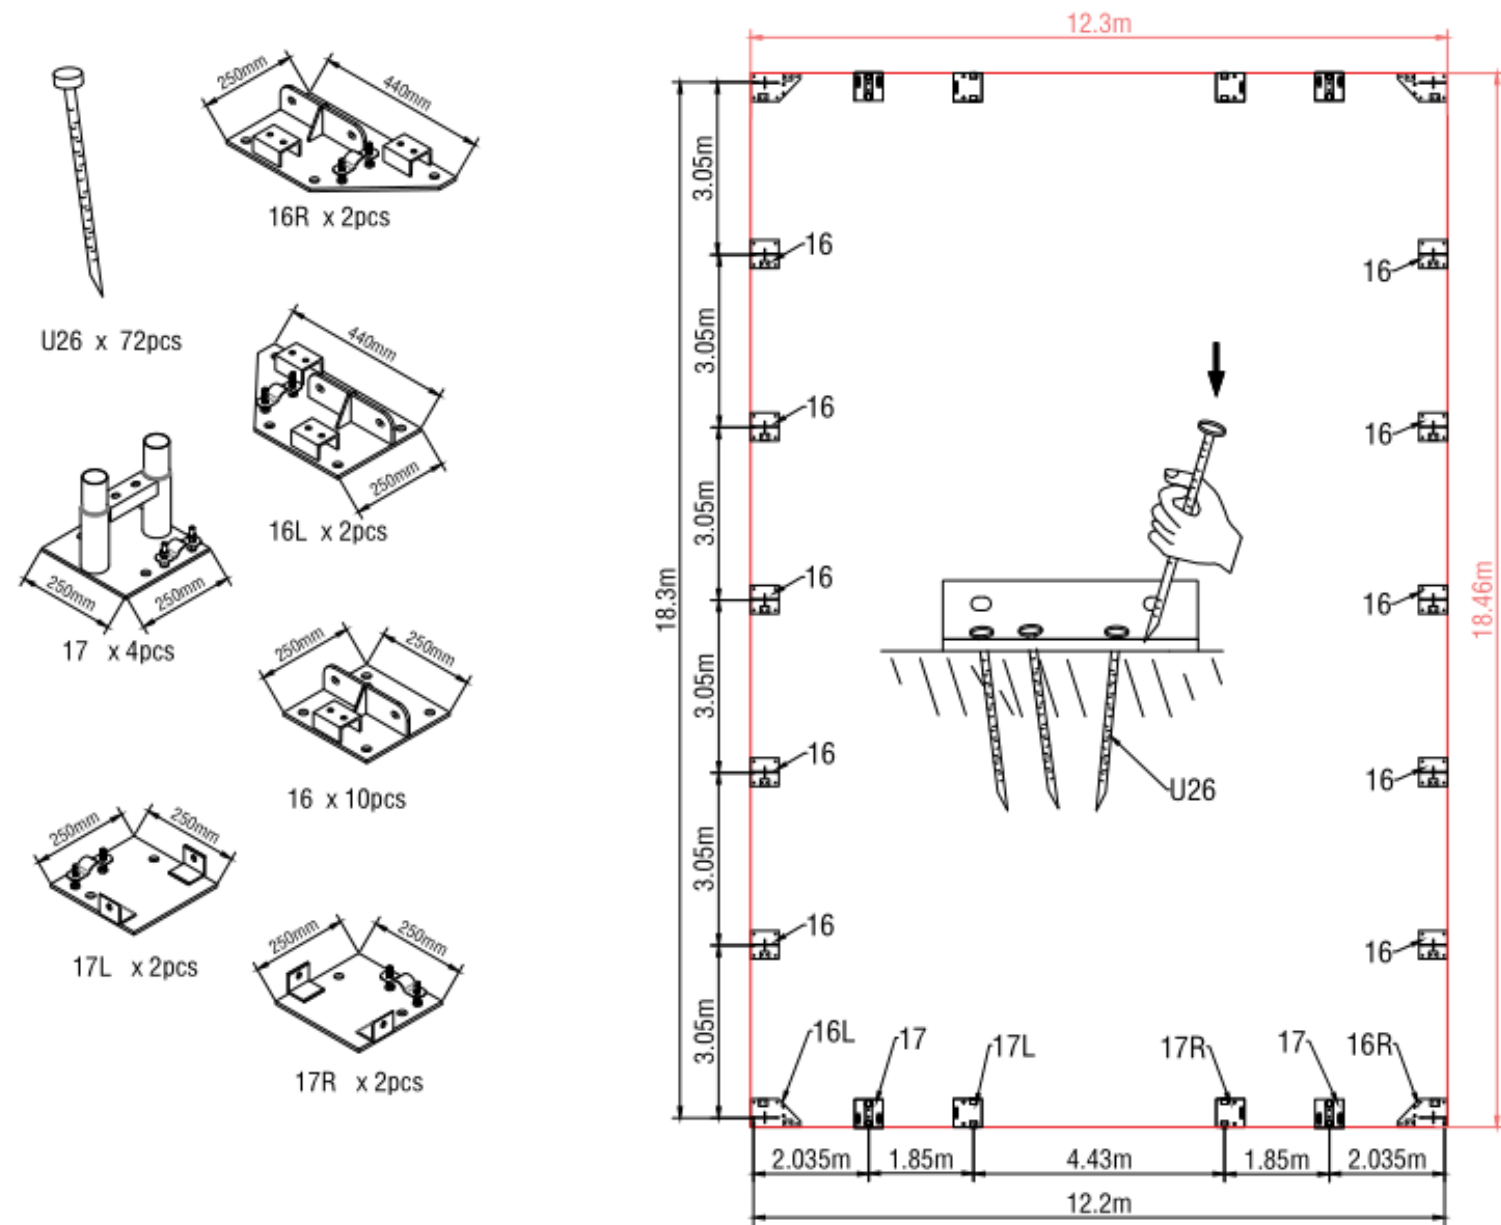

Figure 1
2. Please refer to the diagram (Figure 1) to place the base plates.
3. As Figure 1 shows each Base plate is equipped with 4 pieces of Stake pegs.(No.U26) or Expand screw